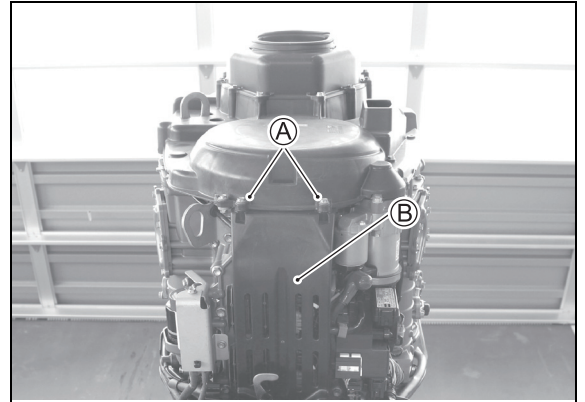

Fig. 1
3. Remove the bolts (A) and the front ring gear cover (B) as shown in Fig. 1.